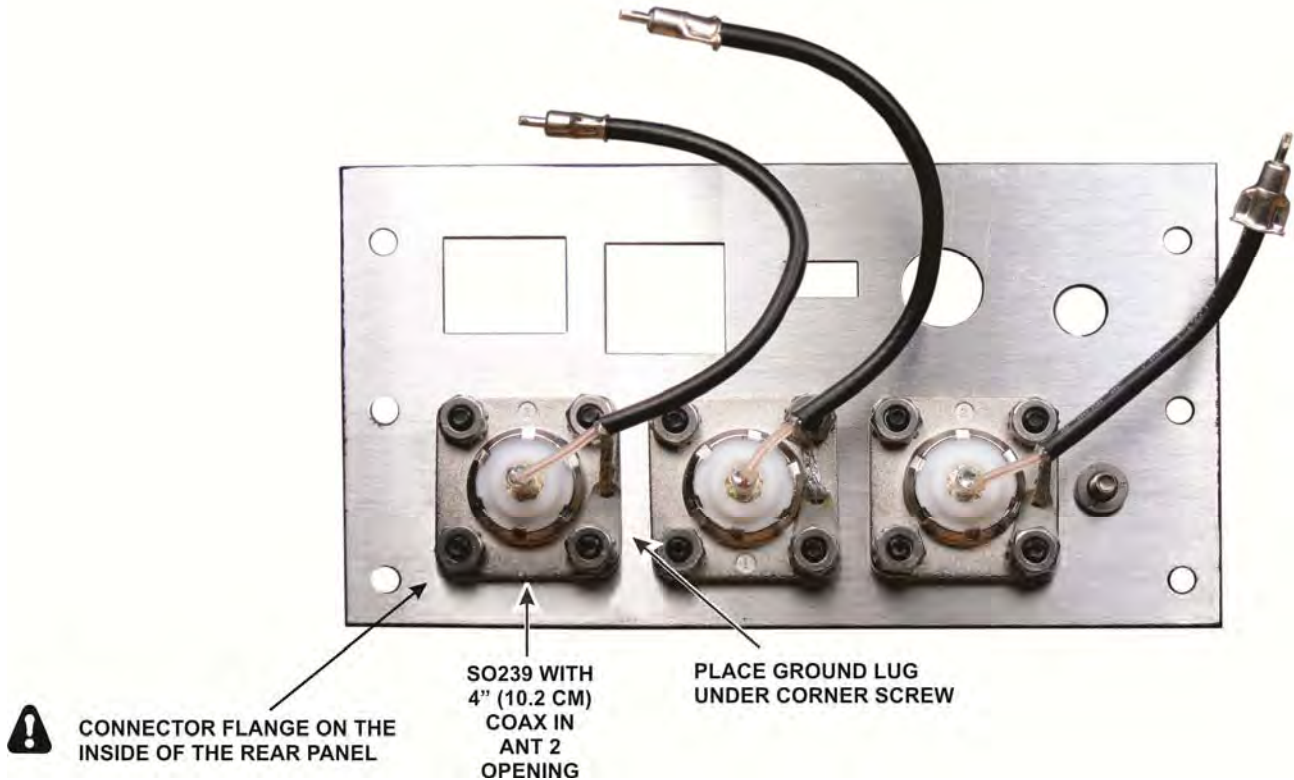

Figure 12. Mounting the ANT2 Connector on the Rear Panel.
- ☐ Locate the envelope containing the SO-239 connector with a 4" (10.2 cm) cable attached packed with the ATU module and install it in the ANT 2 opening on the rear panel as shown in Figure 12.